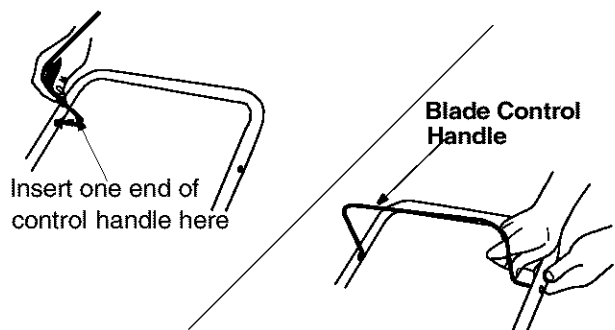

Figure 5
- Insert the curved end of the blade control handle into the right hole. See Figure 5.